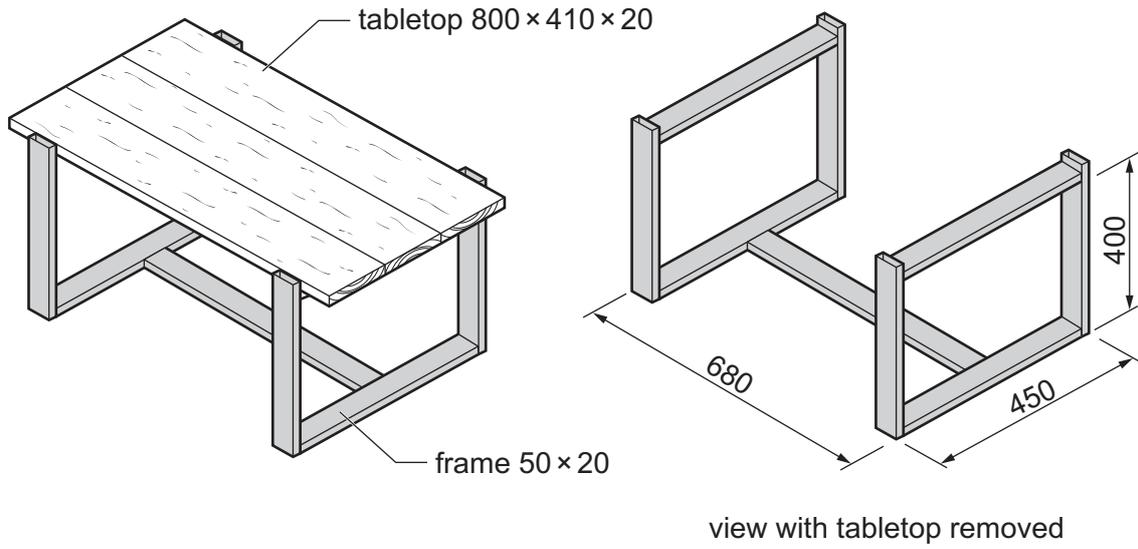

Fig. 12.1
- 12 Fig. 12.1 shows an incomplete design for a small table. The tabletop is made of hardwood. The frames are made from mild steel rectangular tube.
- (b) The parts of the frame shown in Fig. 12.1 will be cut from the length of 50 × 20 rectangular tube shown in Fig.12.4.